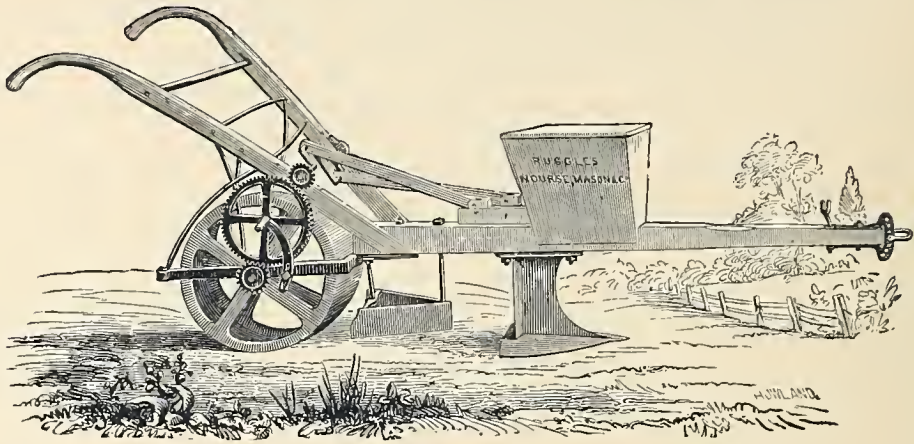

Fig. 340.—Batchelder's Corn-Planter.
**Batchelder's Corn-Planter** is represented by *Fig. 340*. The share, or plow,